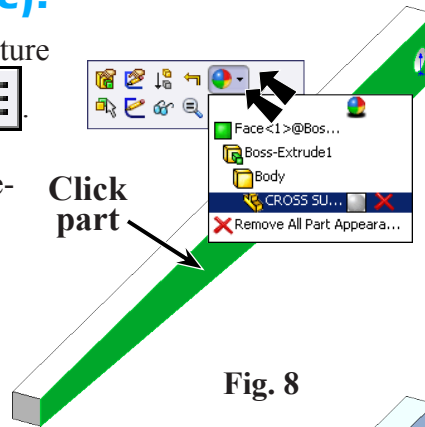

Fig. 8
Step 1. Click the Arm, click **Appearance Callout**  on the Content toolbar and click **CROSS SUPPORT** , Fig. 8.